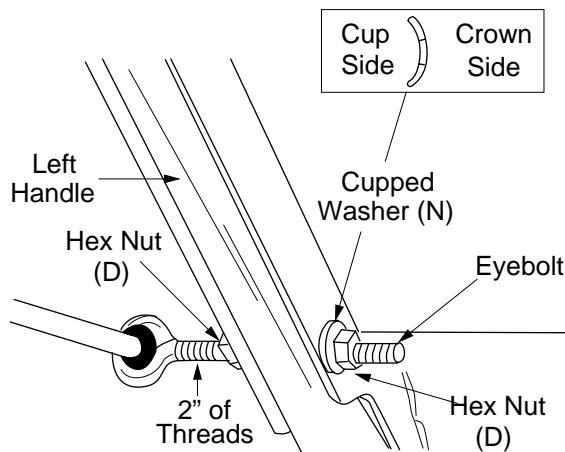

Figure 10
3. Thread one hex nut (D) onto the eyebolt on the chute crank assembly until there is at least two inches of threads showing between the nut and the head of the eyebolt. See Figure 10.
4. Place the eyebolt into the hole located half way up the left handle. Secure with cupped washer (N) (cupped side against the handle, see inset, Figure 10) and hex nut (D).